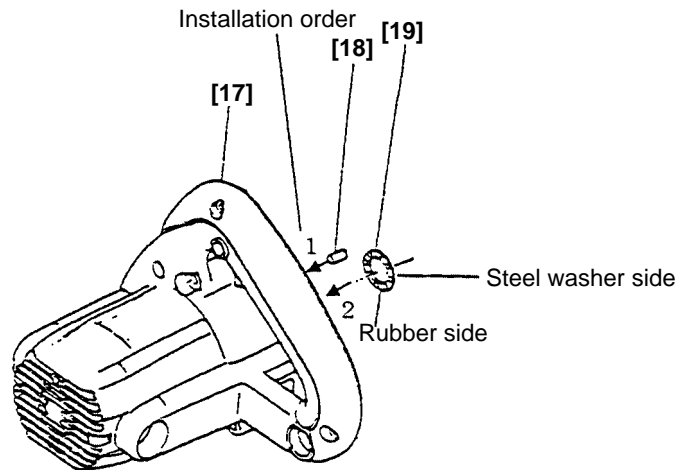

Fig. 8
(1) Assembling the Bearing Lock [18] and Thrust Washer [19] (See Fig. 8.)